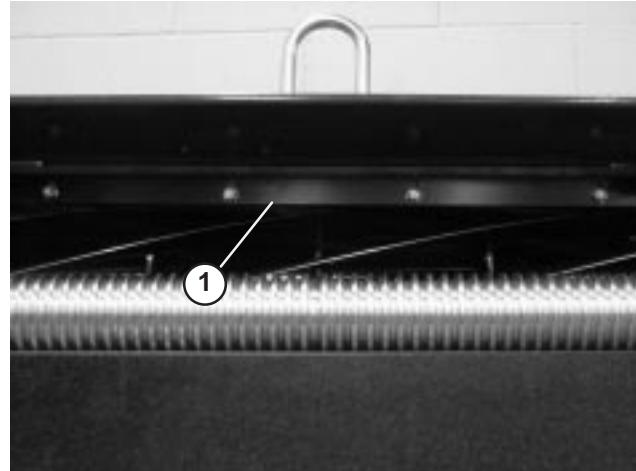

Figure 16
- Loosen screws securing top bar (Fig. 16) to cutting unit.